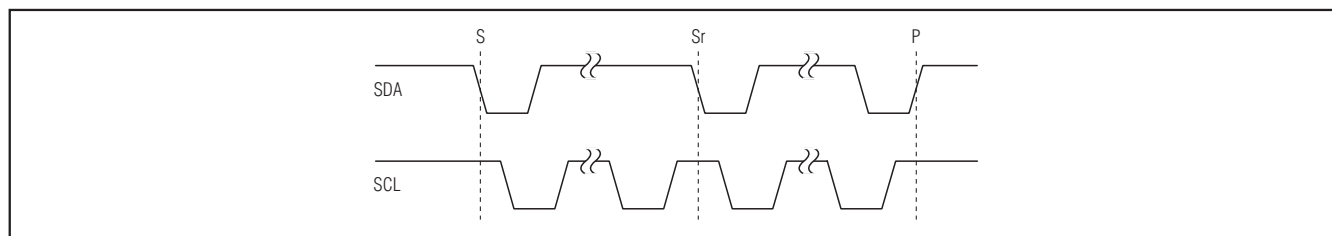

Figure 7. START and STOP Conditions
The master initiates a transmission with a START condition (S), a high-to-low transition on SDA with SCL high. The master terminates a transmission with a STOP condition (P), a low-to-high transition on SDA while SCL is high (Figure 7). The STOP condition frees the bus and places all devices in F/S mode (see the *Bus Timing* section). Use a repeated START condition (Sr) in place of a STOP condition to leave the bus active and in its current timing mode (see the *HS Mode* section).